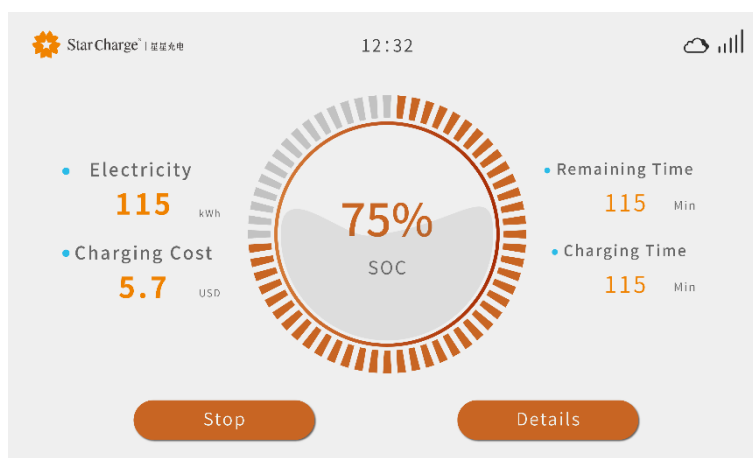
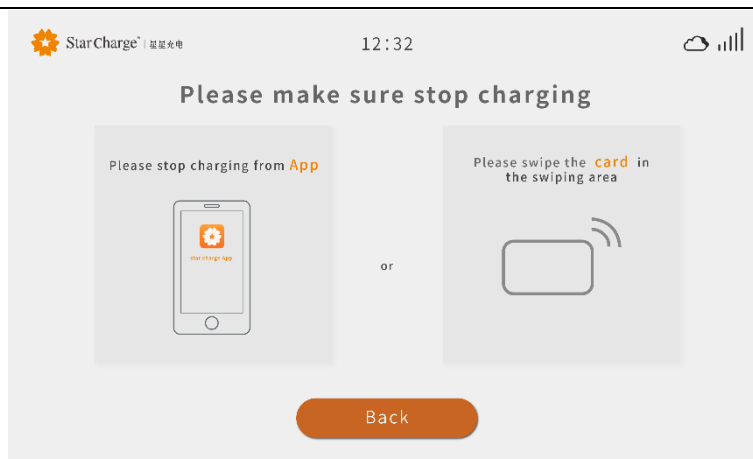

Figure 3-3 Charging interface
Figure 3-5 Charging by card
Step 4 During the charging process, the charging device screen displays the charging status interface, click "Charging Details", as shown in Figure 3-3, 3-4, you can view the charging details.
Step 5 Swipe the card to stop charging: Click the "Stop" button as shown in Figure 3-3, enter the stop charging interface and select the card swiping mode, and swipe the card again to stop charging, as shown in Figure 3-5.